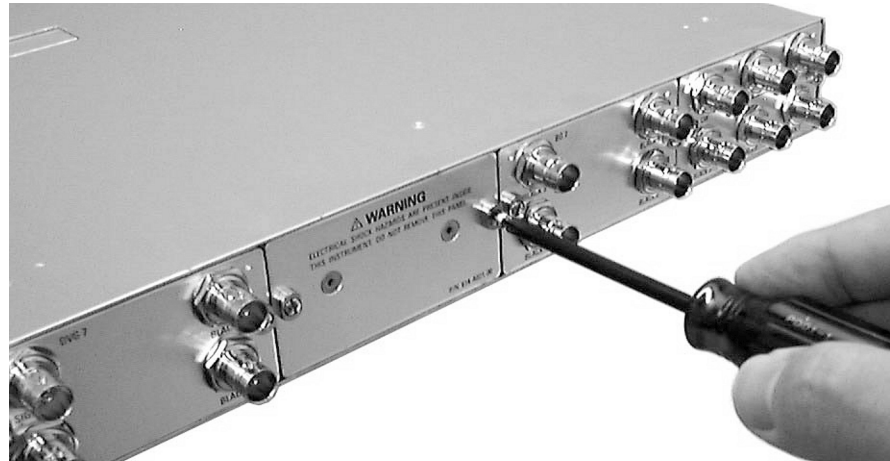

Figure 2: Removing the blank panel
3. Use a screwdriver with a #1 Phillips tip to loosen the two screws on the blank panel attached to the slot you want to use, and then remove the blank panel. See Figure 2.